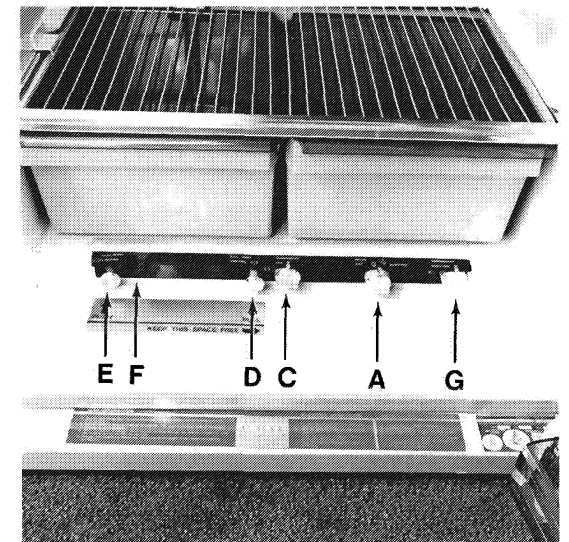

Fig. 1 – Controls Inside Refrigerator
**For gas operation,** follow these instructions (See Fig. 1):
2. To start the refrigerator turn the valve knob (A) to gas position. The gas valve is now open and the electric circuits are not in use. Set thermostat knob (C) to setting No. 4.
3. Pull knob (D) of the automatic pilot, and keep it out for 15 seconds. Press in knob (E) of the piezo lighter. The pressing may have to be repeated.
4. After the burner is lit, which can be seen through reflector window (F), keep the knob (D) pulled outward for an additional 15 seconds.
5. Release the knob (D) and check that the